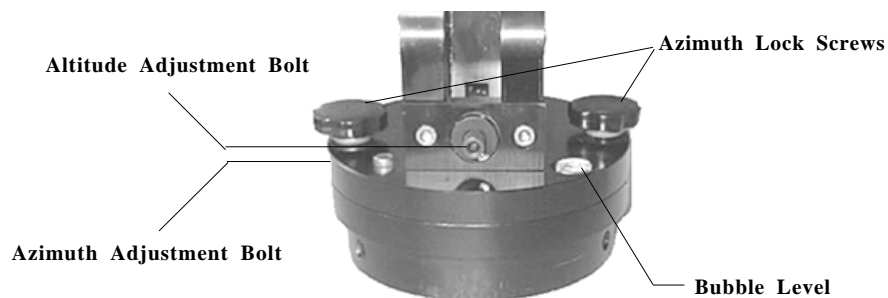

Figure 2-14
1. Locate the altitude adjustment bolt just above the tripod column (see figure 2-14).